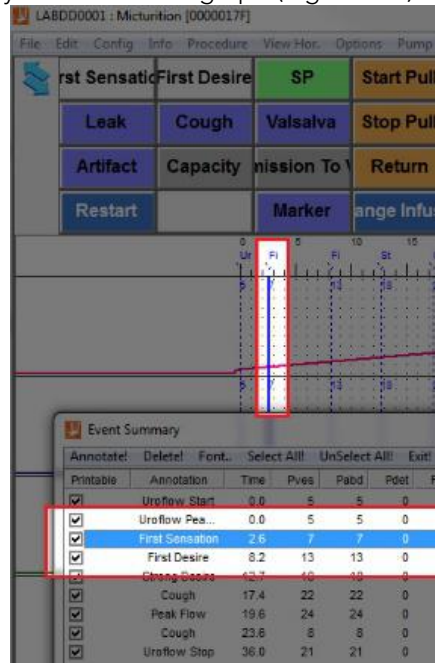

Figure 108: Event Summary – Select Event
4. The selected event is automatically bolded on the graph (Figure 108). Close the *Event Summary* window.